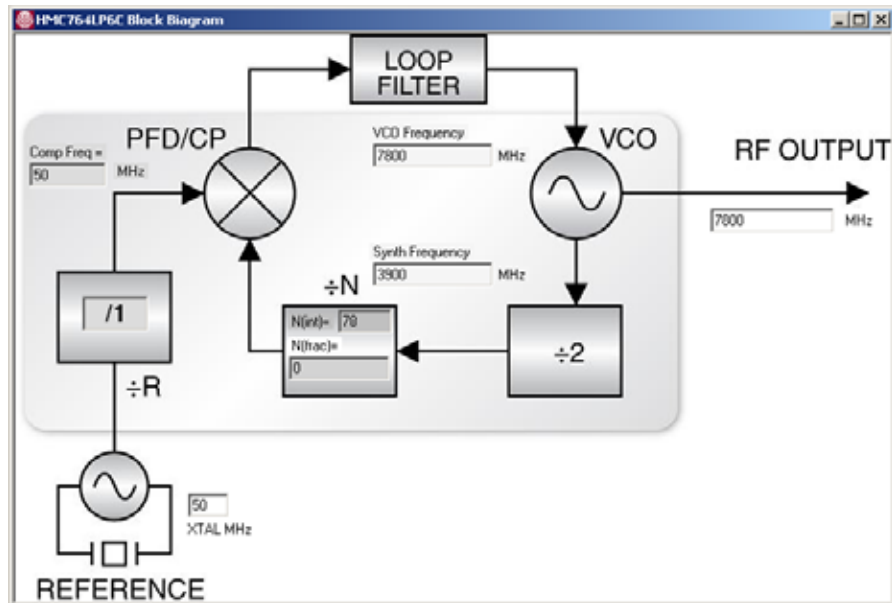

Figure 12. PLL with Integrated VCO Block Diagram
Step 8. Click "HMC PLL with Integrated VCO Block Diagram" button, the block diagram pops out as Figure 12 shown (optional to show the configuration but step not required to run the part).